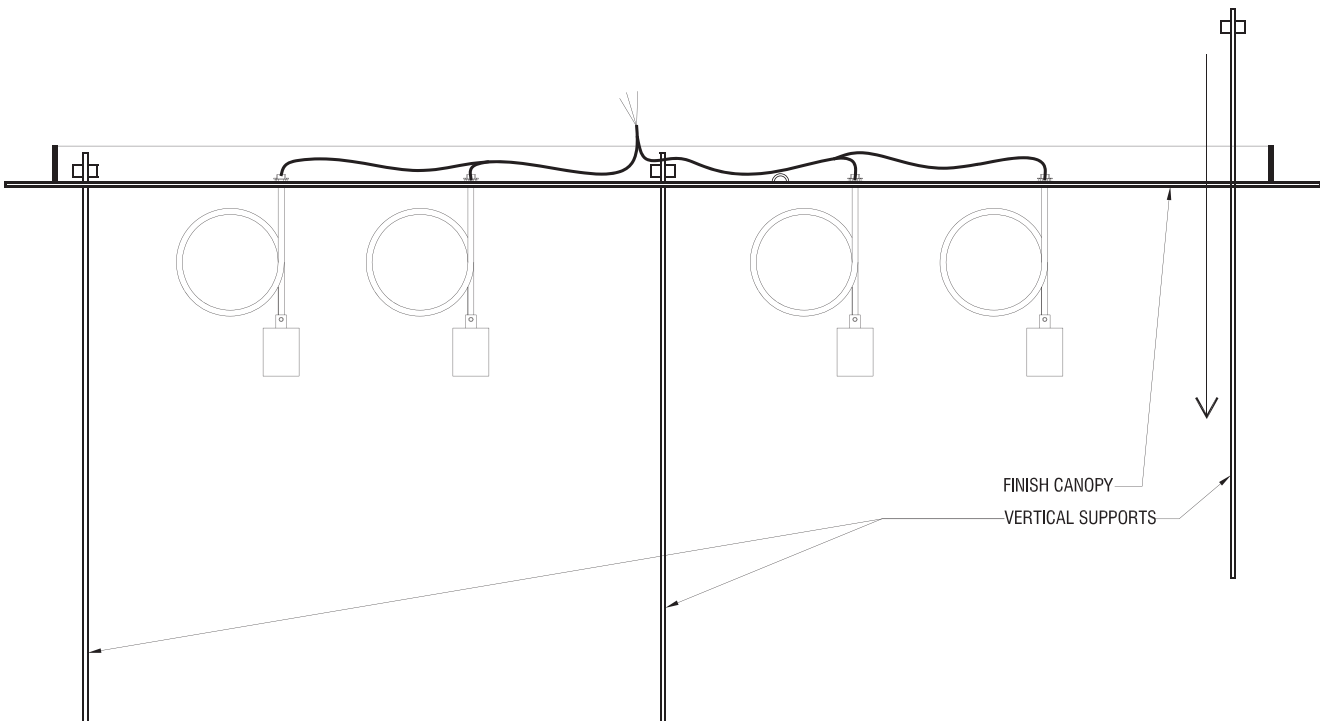

Figure 3. Insert Vertical Supports into Finish Canopy
- 6 When the mounting plate is fastened to the ceiling/structure, take the three vertical supports and pass them through the slots in the finish canopy as shown until they are supported by the stops at their tops (Figure 3). Take great care that the metal finish on either the canopy or vertical supports is not damaged during this procedure.